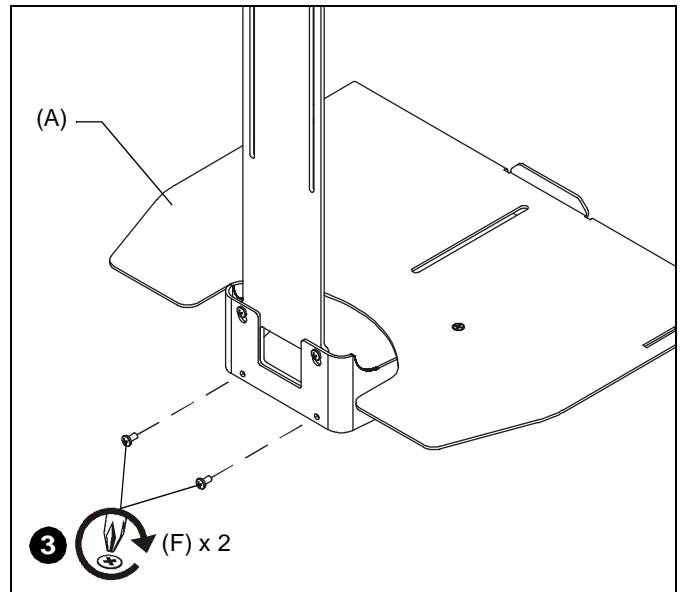

Figure 4
3. Fasten two 10-24 x 3/8" Phillips pan head screws (F) into the lower holes of shelf assembly (A). (See Figure 4)